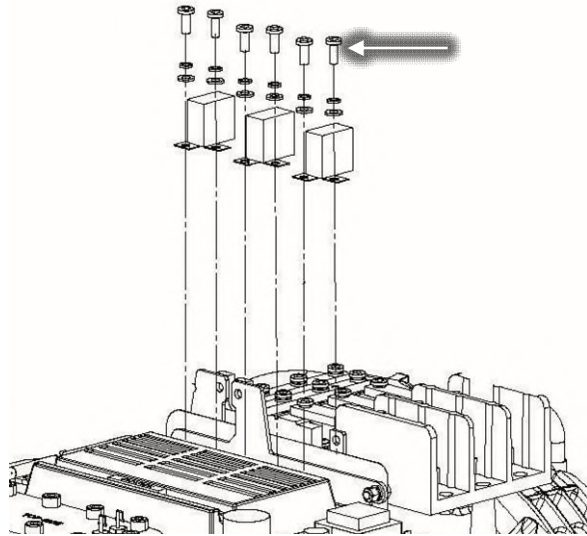

Figure 11 – Snubber Capacitor Removal
21. Disconnect the snubber capacitors from the Inverter noting the leg orientation of one leg is longer than the other. Refer to Figure 11 (Snubber Capacitor Removal).
21. Reconnect the snubber capacitors to the Inverter noting the leg orientation and torque to specification. Starting from the DC Bus Capacitor side, torque to specification. Refer to Figure 11 (Snubber Capacitor Removal).